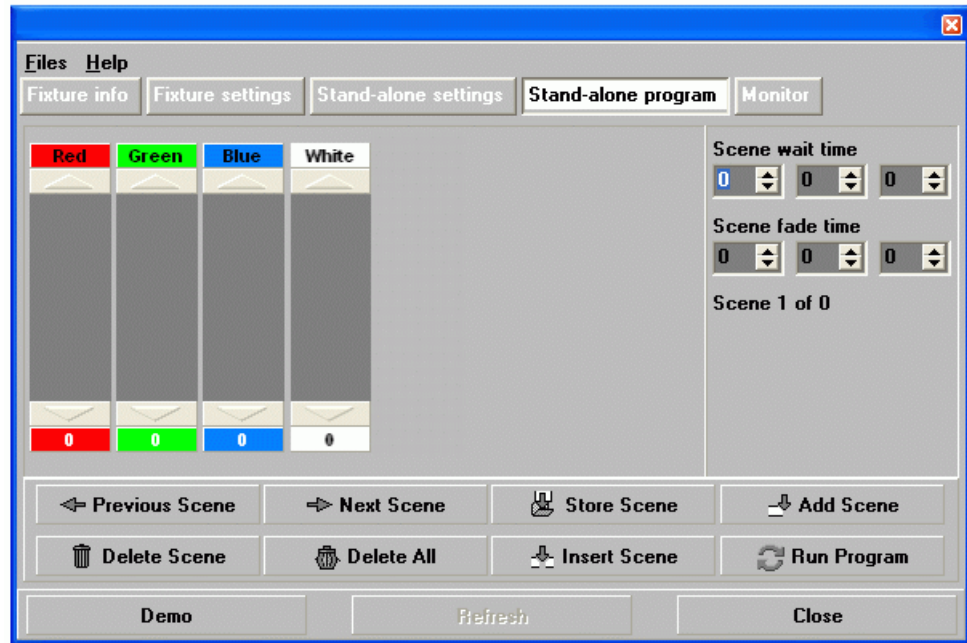

Figure 19: Stand-alone programming window
1. click on the **Stand-alone program** button (see Figure 19).